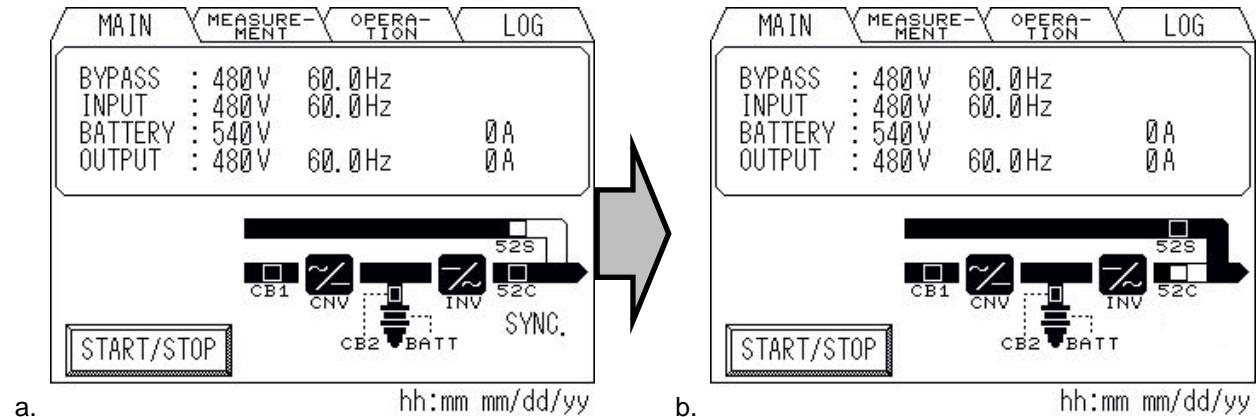

Figure 5-12 Transfer from Online to Bypass
- The UPS transfers to Bypass. (Figure 5-12) The Bypass contactor (52S) closes and the Inverter contactor (52C) opens. (Figure 5-12b)